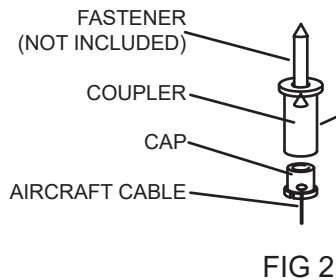

FIG 2
2. PASS THE AIRCRAFT CABLES THROUGH THE CAPS (SEE FIG 2)
3. FASTEN THE CAPS TO THE COUPLERS (SEE FIG 2)